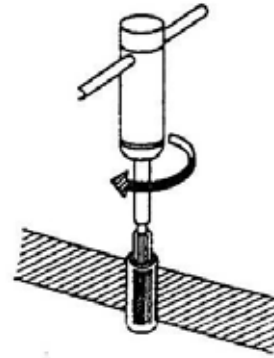

Figure 4-19: Valve Guide Reamer (typical) 6.6 mm (0.2598 in.) shown
- See Figure 4-19. Verify the width of the finished seat is within specification.